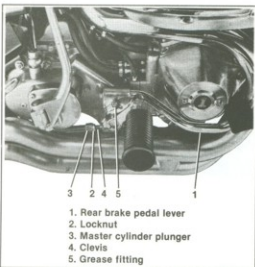

Figure 2-44. Rear Brake Pedal Adjustment
— See Figure 2-44. Loosen the locknut (2) and turn the plunger (3) on clevis threads (4) forward to increase free play or rearward to decrease free play. Adjustment should be made with the linkage very loose, then turning plunger rearward until proper free play is obtained.